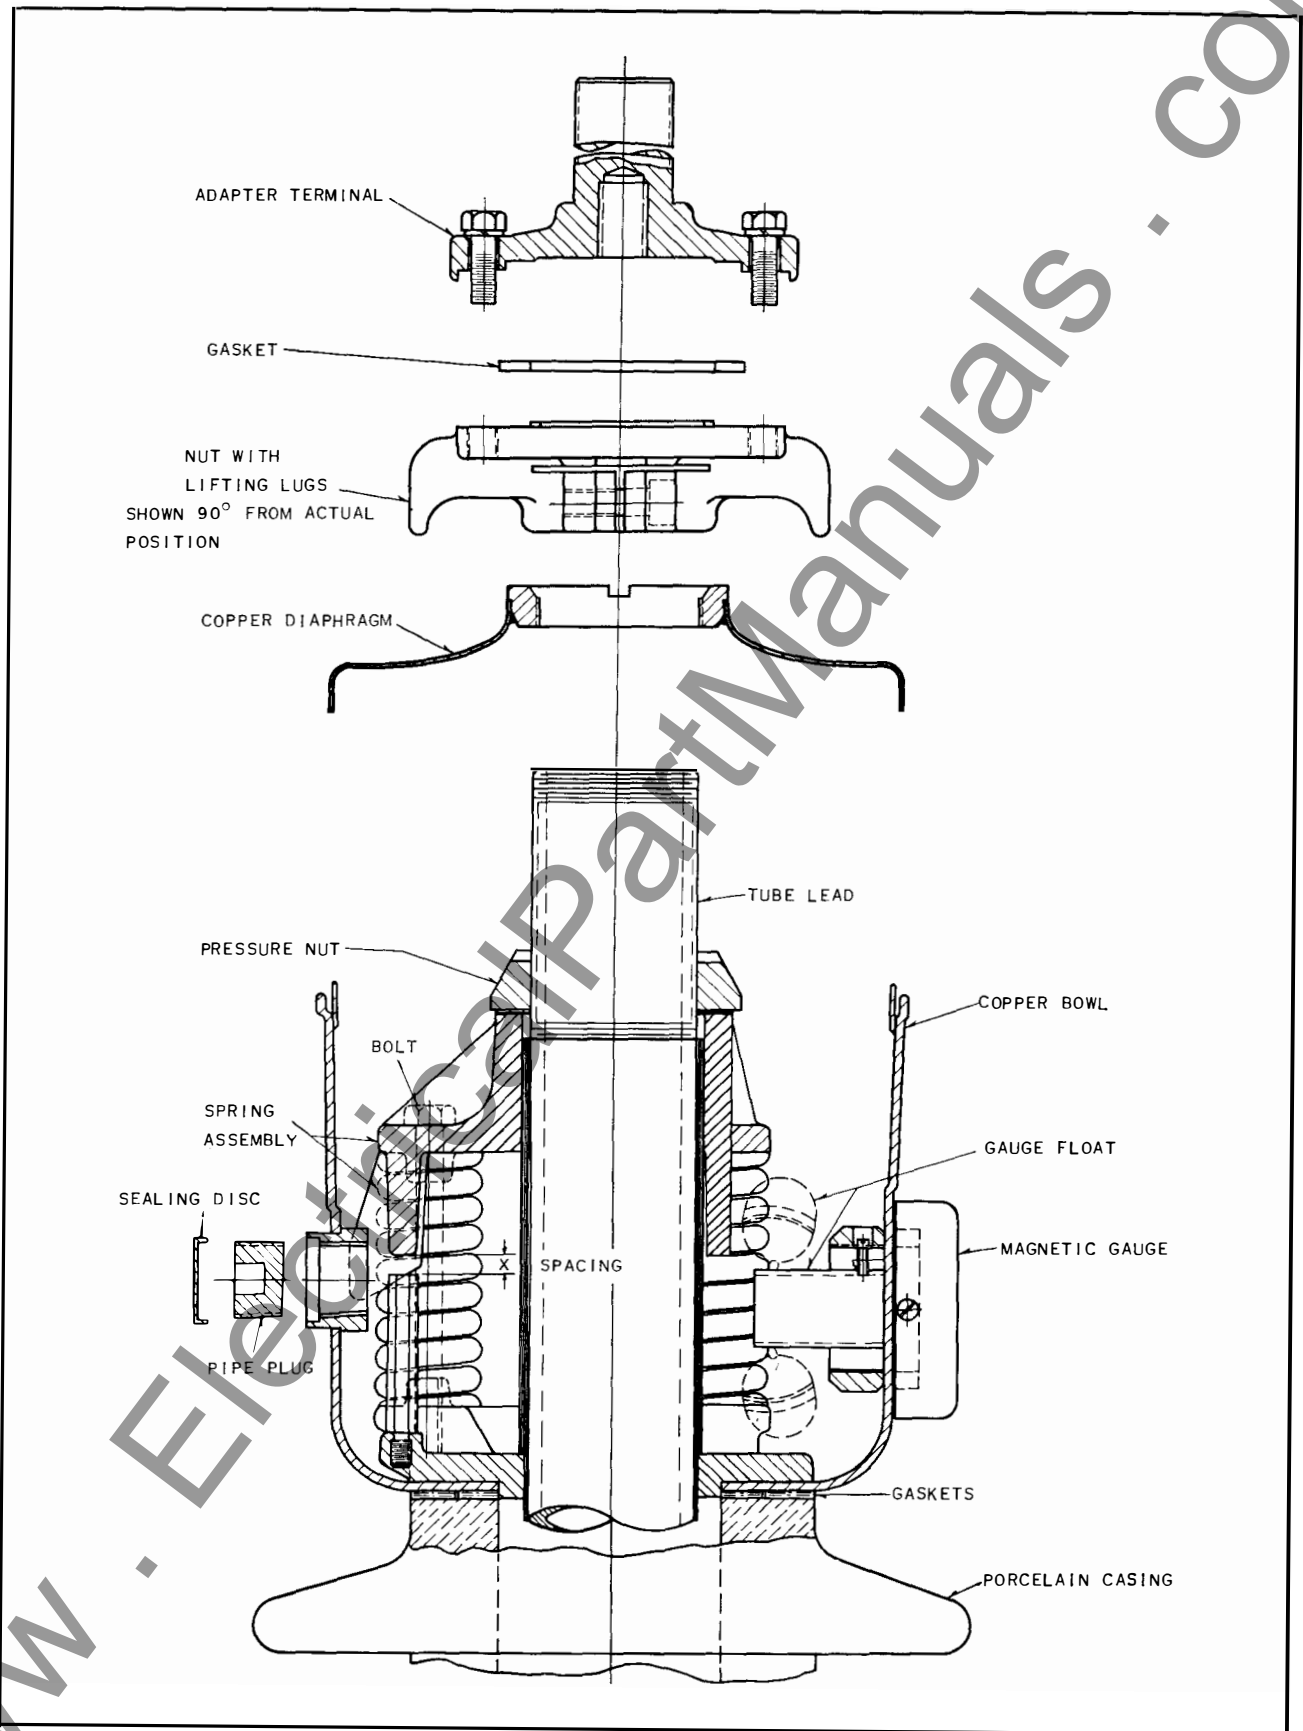

FIG. 7. Sectional View—Bushing Expansion Bowl
4. After removing the adapter cap, unsolder joints at lifting lug, copper tube and diaphragm shown in Fig. 7.
5. For bushings with copper expansion bowl—(see Fig. 7), after copper diaphragm is removed insert bolts and tighten to compress springs. Unscrew pressure nut, remove gauge float, and take spring assembly from cap.
7. Adjust bolts on cap spring to give approximately  $\frac{1}{8}$ " less than measured between gauge rods (x-spacing) before dismantling the bushing. Place the cap in position and tighten with pressure nut (Fig. 7). Remove bolts on spring assembly. It may be necessary to repeat the operation of clamping the springs and adjusting pressure nuts to obtain the desired setting on the gauge rods. Contact your Westinghouse representative if there are any questions about setting of gauge rods or compressing springs.
8. Solder joints at lifting nut, diaphragm, etc., as shown in either Fig. 7 to seal cap.